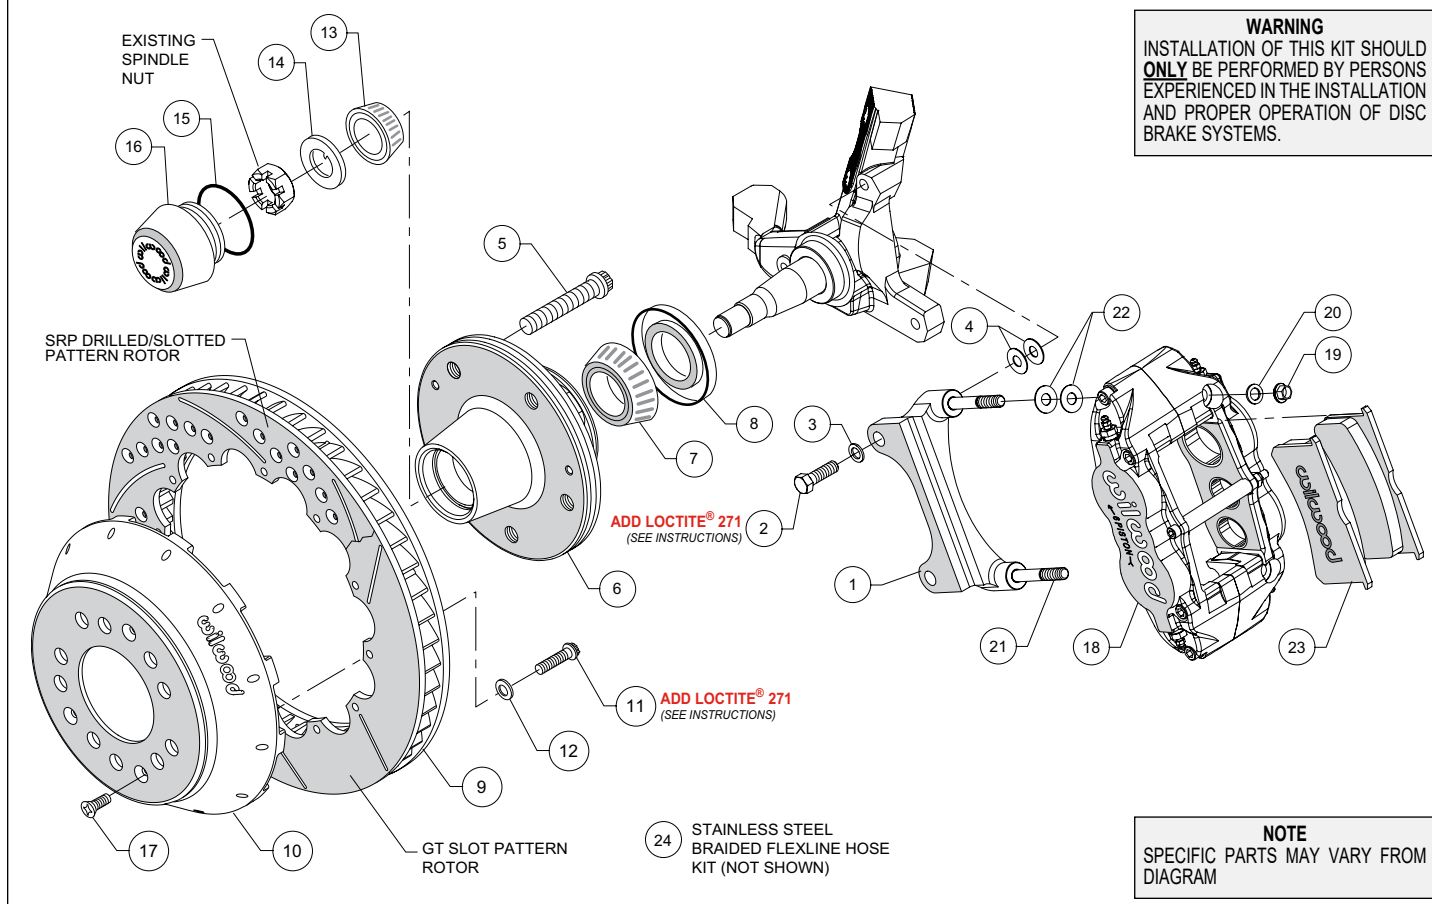

Figure 2. Typical Installation Configuration
Assembly Instructions (numbers in parenthesis refer to the parts list on the preceding page, and Figure 2):
- The caliper mount bracket (1) should initially be installed with clean, dry threads on the mounting bolts. Orient the bracket as shown in Figure 2 and Photo 1, and install using bolts (2) and washers (3). Initially place two .033" thick shims (4) on each bolt between the bracket and upright, Figure 2 and Photo 1. Temporarily tighten the mounting bolts. **NOTE: The bracket must fit squarely against the mount bosses on the upright.** Inspect for interference from casting irregularities, machining ridges, burrs, etc. Later, after the caliper alignment has been checked, the mount bolts will be secured using red Loctite® 271.